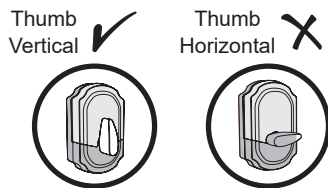

Fig. 8
Step 5. Adjust the thumb turn of the inside section to VERTICAL position (Fig. 8).